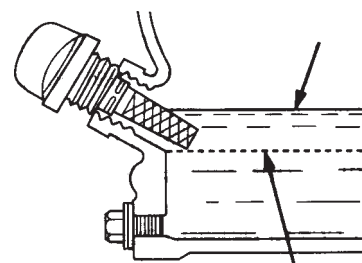

Figure 11. Engine Oil Dipstick (Oil Level)
4. If the oil level is low (Figure 11), fill to the edge of the oil filler hole with the recommended oil type (Table 7). Maximum oil capacity is 400 cc.